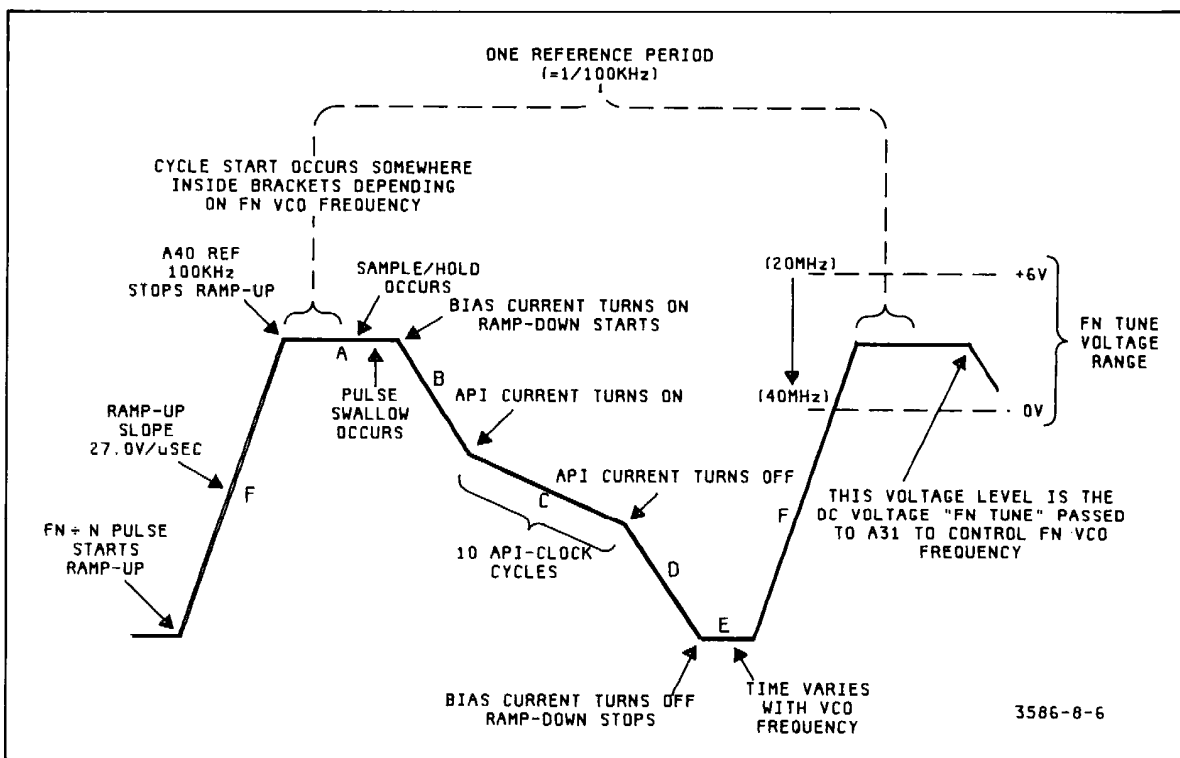

Figure 8-7. Fractional-N Integrator Output (A32TP2).
8-226. Fractional-N Phase Detector (A32). The A32 FN Phase Detector compares the phase relationship of a frequency-variable 100 kHz signal from the FN $\div N$ A30 board to a stable 100 kHz reference signal from the A40 board. A negative-going pulse is then generated, whose width is the time between leading edges of the two input signal pulses to U1. This pulse controls the ramp-up time of an integrator circuit to generate the control voltage for the FN VCO. The ramp-down time of the integrator, in between reference pulses, is initiated by the turn-on of a fixed Bias current that is modified by five control currents. These currents perform a function called Analog Phase Interpolation (API). The current sources and associated switches are called API's. The on/off signals for the control currents come from a Fractional-N chip on the A30 board and are labeled API-1 through API-5. Control of these five currents enables the precision tuning of the FN VCO in 1 Hertz increments. A Sample/Hold circuit keeps the changing integrator output from modulating the FN TUNE voltage. When the ramp-up is complete, the voltage on the integrator is sampled and then passed to the FN VCO. See Figure 8-7 for a graphic representation of the output voltage from the integrator.
8-227. The 100 kHz input pulse from the FN $\div N$ normally arrives at U1 before the reference input pulse. The outputs of U1a are switched by this pulse through Q1 and Q2 to turn Q3 off and Q4 on. TP8 now goes LOW, turning CR3 off and starting the "ramp-up" time of the integrator. When the 100 kHz reference pulse arrives at U1b, U1a is reset, Q1 and Q2 are switched again, Q3 turns on and Q4 turns off. TP8 now goes HIGH, CR3 turns on and ramp-up stops. The integrator now has a constant output as shown by the flat portion (A) in Figure 8-7 and this level is sampled and passed to the FN VCO. U1b will be reset by the next pulse from A30.
8-228. When the BIAS line goes HIGH at U3(14) and the LATCH CLOCK triggers U3, the “ramp down” time begins. The first part of the ramp-down current shown (B) in Figure 8-7 is Bias current only applied to the integrator. All ramp-down current flows into U5. The LATCH CLOCK is now triggering U3 at the rate $FN \text{ VCO} \div 10$, called “API Clock”. At all times other than during ramp-down, LATCH CLOCK is held HIGH by the LOW present on the BIAS line (on the A30 board). After several API Clock pulses, a pre-determined (see $FN \div N$ discussion in paragraph 8-233) combination of API lines 1 to 5 are switched to modify the Bias current with API current as shown at (C) in Figure 8-7. The selected API current-sinks absorb a precise amount of the Bias current so that the slope of the integrator ramp-down is decreased. Each API current-sink absorbs 10 times more current than the one next to it with API-1 absorbing the most and API-5 the least. These current sinks are turned on and off by the outputs of U3 and Q18-Q20. This API-current cycle lasts for 10 pulses of the API Clock. Each current-sink may be on for 0-9 of the 10 pulses so that any numerical combination from 0 to 99,999 is possible.